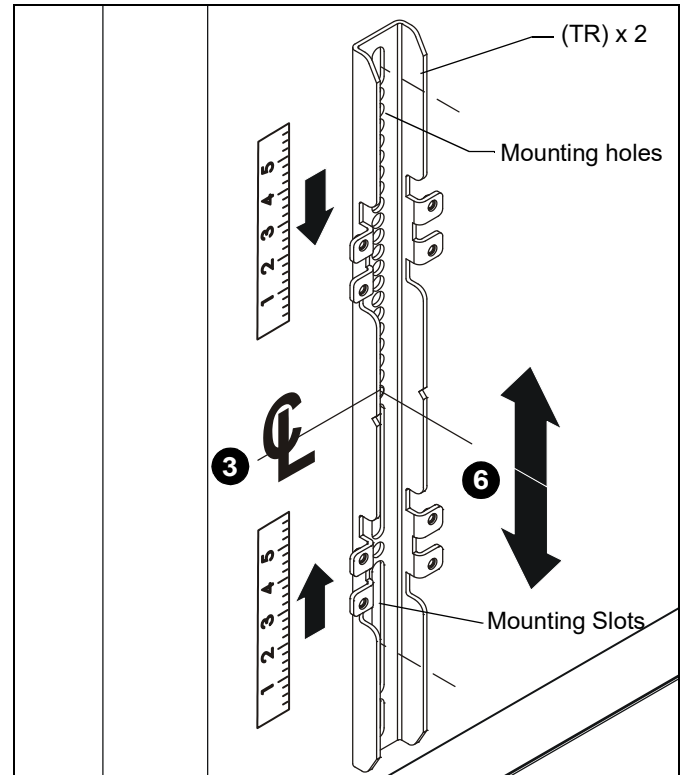
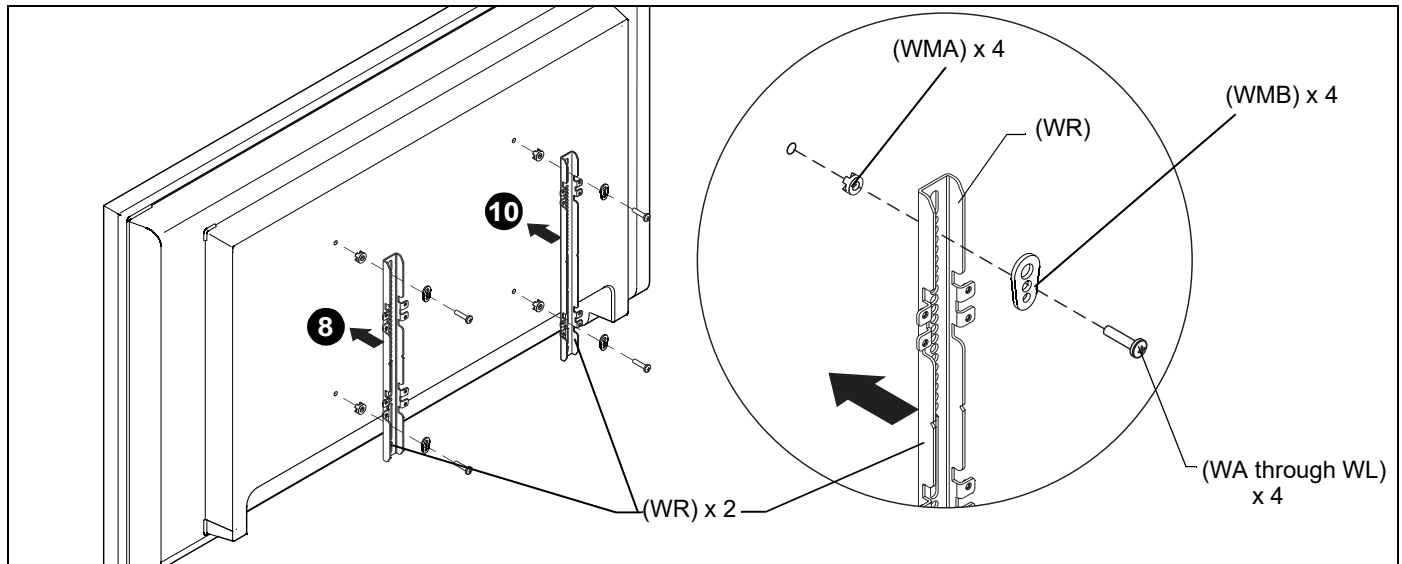

Figure 28
Figure 30
3. Determine and mark the vertical center position between the Left side Upper and Lower mounting holes in display. (See Figure 28)
4. Determine and mark the vertical center position between the Right side Upper and Lower mounting holes in display. (See Figure 28)
5. Orient vertical mounting bracket (WR) so that mounting holes are on top and mounting slots are on bottom. (See Figure 28)
6. Align mounting holes in vertical mounting bracket (WR) with upper and lower mounting holes in display.
7. Adjust vertical mounting bracket (WR) position until mark made in Step 1 aligns with center mark in vertical mounting bracket (WR).
8. Select correct screws, nesting spacers (if necessary) and universal washers (if required) from the hardware bag (WAWM) and attach brackets to back of screen. (See Figure 30)
9. If the display has a recessed mounting surface, protrusions or a power box, a spacer and longer mounting hardware must be placed between the display and vertical mounting bracket (WR). (See Figure 30)